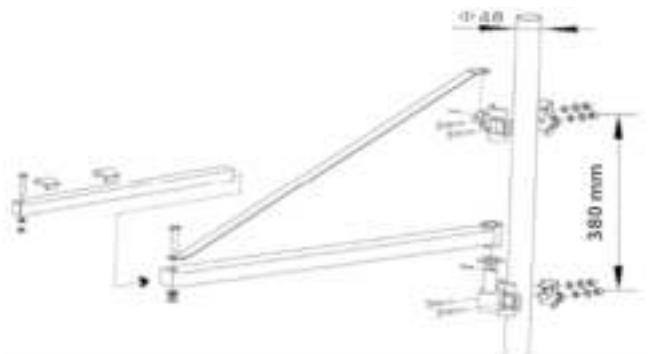

Fig.3
1) For proper installation of the protrusion bar, follow instructions as shown Fig.3.